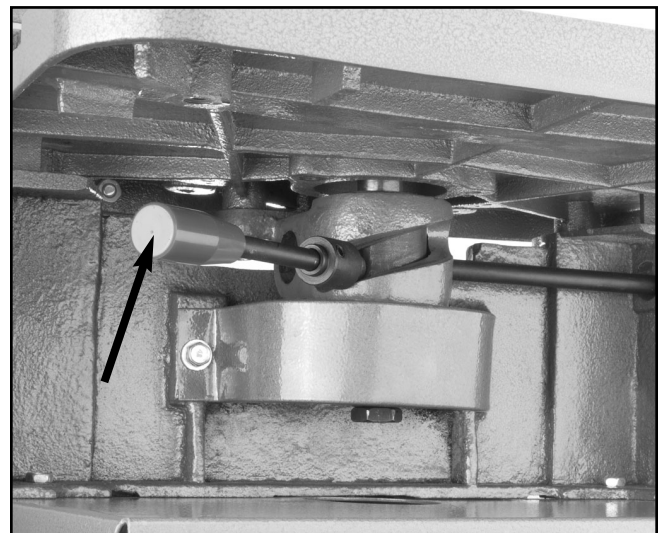

Figure 12. Spindle elevation adjustment handle.
2. Move the spindle up or down with the elevation adjustment handle, shown in **Figure 12**, until the desired position is obtained.